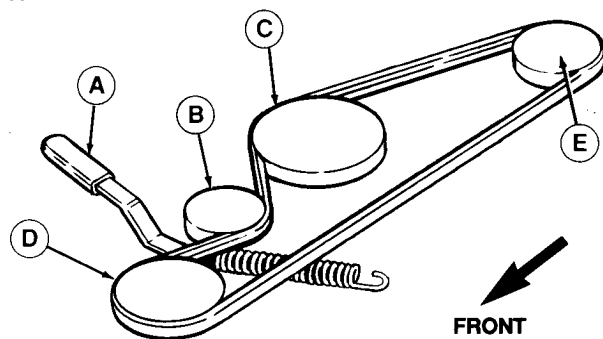

Figure 31 Belt Pattern - 30" Mower
See Figure 31.
3. Remove the three capscrews (D, Figure 31) securing the left-hand arbor cover.